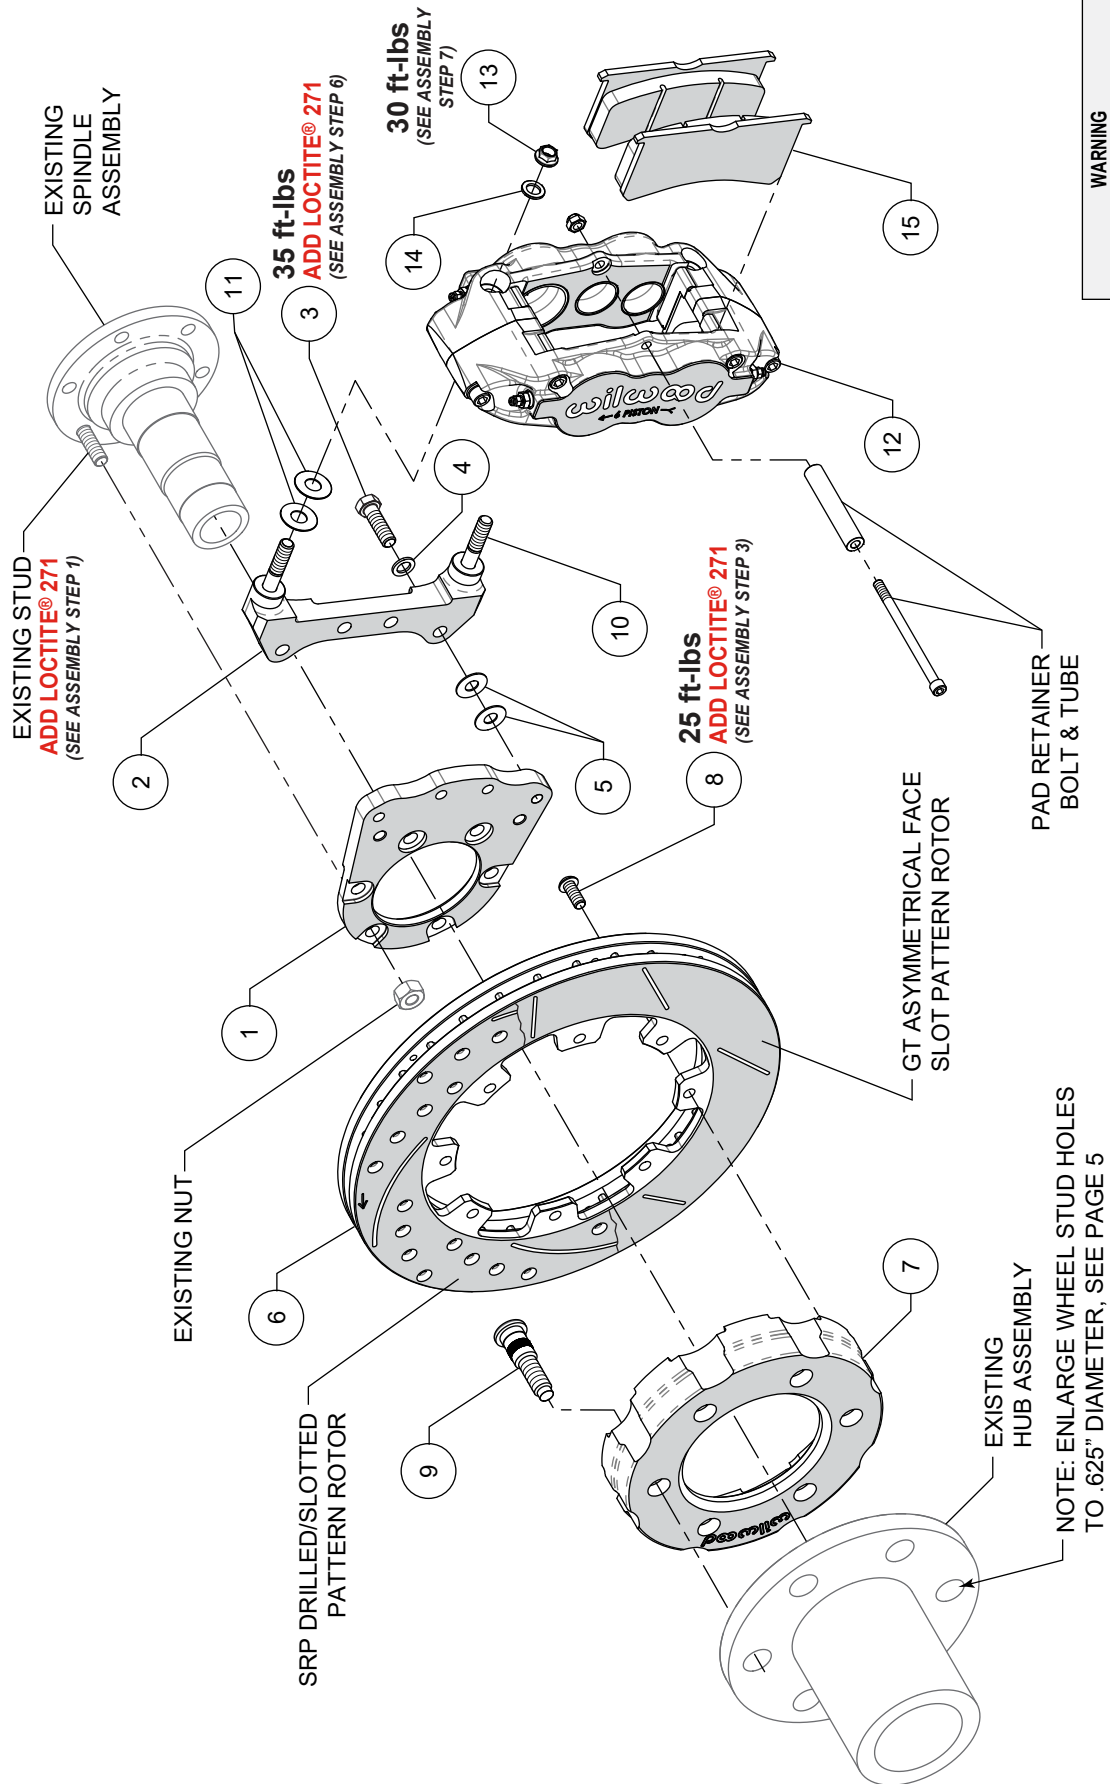

Figure 1. Typical Installation Configuration
NOTE: Numbers in parenthesis refer to the parts list and Figure 1 on the preceding pages.
STEP 1 Orient and mount the flat bracket (1) to the spindle using the OEM studs and nuts as shown in Figure 1 and Photo 1. Apply red *Loctite*® 271 to the threads of studs and torque nuts to OEM specifications. **NOTE:** The bracket must fit squarely against the mounting surface. Inspect for interference from casting irregularities, machining ridges, burrs, etc.
STEP 2 The caliper mount bracket (2) should initially be installed with clean, dry threads on the mounting bolts. Orient the bracket as shown in Figure 1 and Photo 2, and install using bolts (3) and washers (4). Initially place two .035 thick shims (5) on each bolt between the flat bracket (1) and caliper mount bracket (2), Figure 1. Temporarily tighten the mounting bolts. Later, after the caliper alignment has been checked, the mount bolts will be secured using red *Loctite*® 271.
STEP 3 Orient the rotor (6) and the hat (7) as shown in Figure 1 and Photo 3. Attach the hat to the rotor using bolts (8). Apply red *Loctite*® 271 to the bolt threads and torque to value shown in Figure 1 using a criss-cross pattern.
STEP 4 **NOTE:** See "Modification Instructions" for information on modifying the wheel stud holes. Orient the hat/rotor (6/7) and existing hub so the wheel stud holes are aligned with each other as shown in Figure 1. Install the wheel studs (9) from the backside of the hat and press studs into the hub, as shown in Figure 1.
STEP 6 NOTE: This kit contains distinct right and left hand calipers that must be mounted in a specific direction, as described below. Initially place two .035" thick shims (11) on each stud (10) as shown in Figure 1 and Photo 5. Mount the caliper (12) onto the bracket (2) using lock nuts (13) and washers (14), Figure 1. Ensure that the caliper is mounted so that the largest pistons are at the rotor exit end of the caliper, in relation to the direction of forward rotor rotation. Temporarily tighten the lock nuts and view the rotor through the top opening of the caliper. The rotor should be centered in the caliper, Photo 6. If not, adjust by adding or subtracting shims (5) between the flat bracket (1) and caliper mounting bracket (2). Always use the same amount of shims on each of the four mounting bolts (3). Once the caliper alignment is correct, remove the bracket mounting bolts (3) one at a time, apply red *Loctite*® 271 to the threads, and torque to value shown in Figure 1.
STEP 7 Remove the caliper pad retainer bolt, locknut, and tube from the caliper. Insert the brake pads (15) into the caliper, with the friction material facing the rotor, as shown in Photo 7. Check that the top of the brake pad is flush with the outside diameter of the rotor, Photo 8. If not, adjust by adding or subtracting shims (11) between the caliper and the bracket. After the caliper pad height is set, torque the caliper lock nuts (13) to value shown in Figure 1. Secure the brake pads in place with the pad retainer tube, bolt, and locknut. The locknut should be snug without play in the bolt or tube. Be cautious not to over tighten.